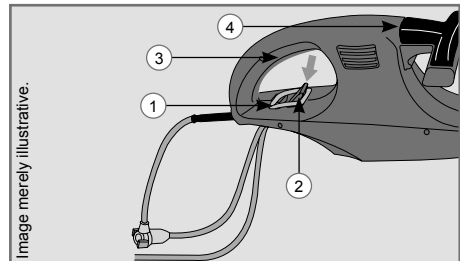

Fig. 1
- ✓ Bend the extension cord and pass it through hole (1), then fit it in clamp (2) (Fig. 1).
- ✓ **Switching on** - Press the dual power on/off switch (3 and 4) (Fig. 1).
- ✓ **Switching off** - Release the dual power on/off switch (3 and 4) (Fig. 1).